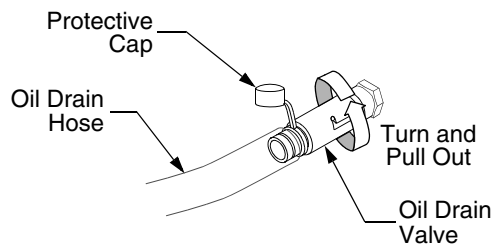

Figure 21
- Locate the oil drain hose on the RIGHT side of the engine. Refer to Figure 21.
- While holding the free end of the oil drain hose over the oil collection container, unscrew the square head hose plug from the end of the hose. See Figure 21. Drain the engine oil into the collection container.